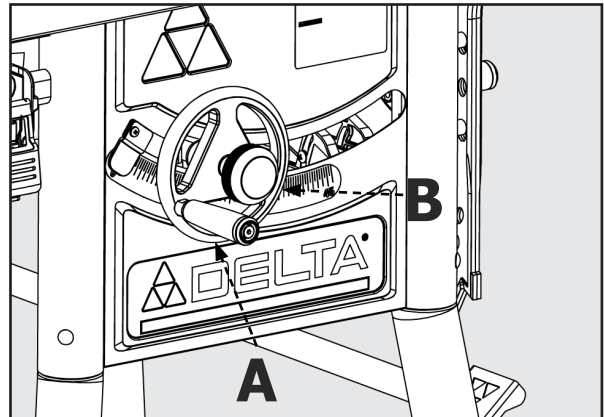

FIGURE 19
Raise or lower the blade with the hand wheel (A) located on the front of the saw maximum 45° (fig 19).
1. Before raising or lowering the blade, be sure to loosen the lock knob (B) by turning it counterclockwise.